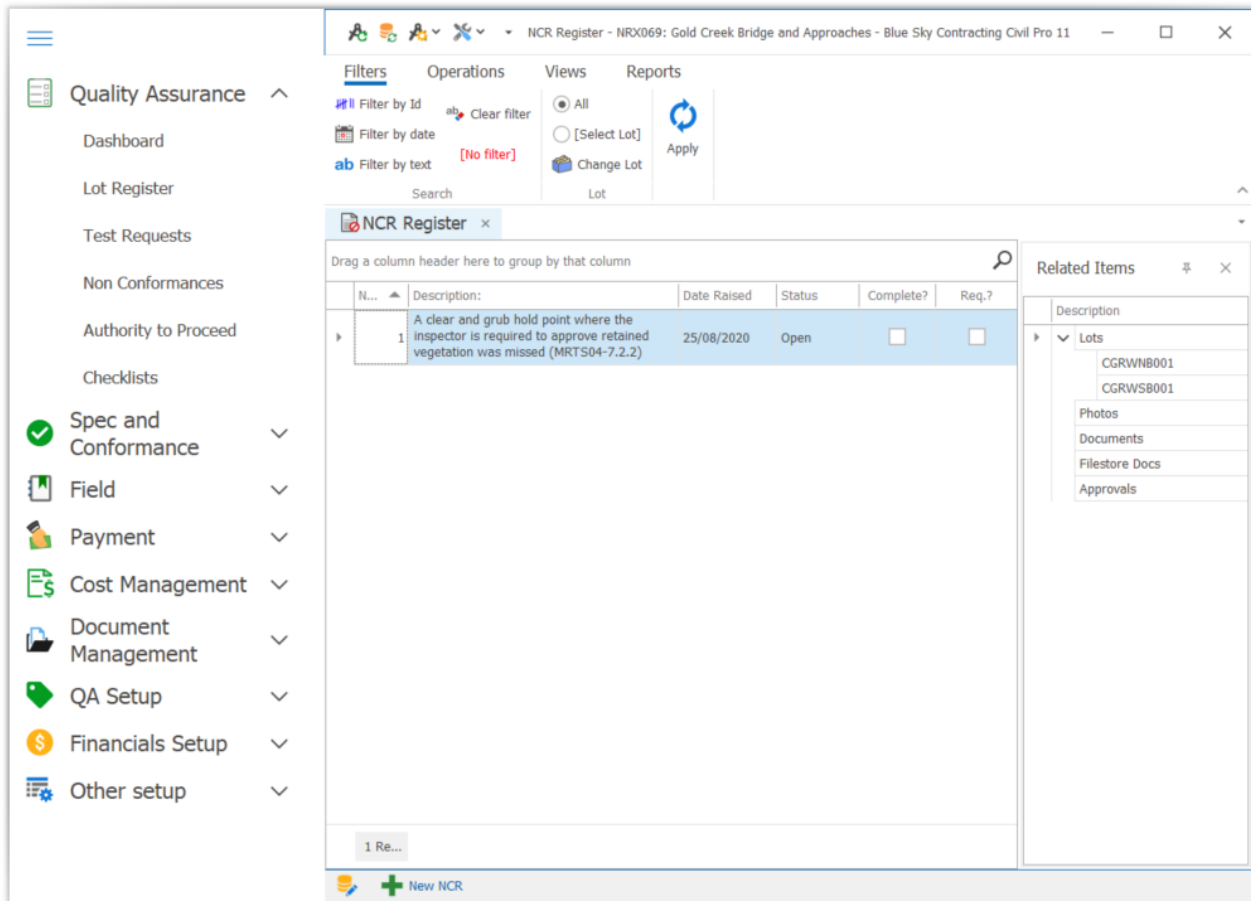

Figure 71 NCR Register showing two associated lots
8. Re-associate by double clicking on the Lots heading, selecting the CGRWNB001 Lot and dragging it onto the Lots heading. You can do a similar operation from the Lots Register - try it by also linking this NCR to Lot CGRWSB001 from the Lot Register. Once done you will see both Lots as related items within the NCR register as in Figure 71.